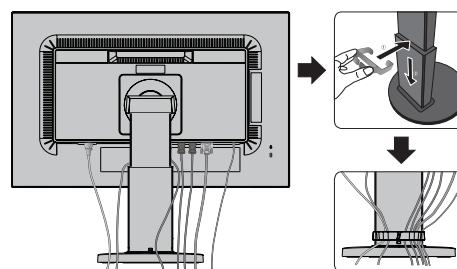

Figure C.2
- Place the cable holder onto the stand (**Figure C.2**).